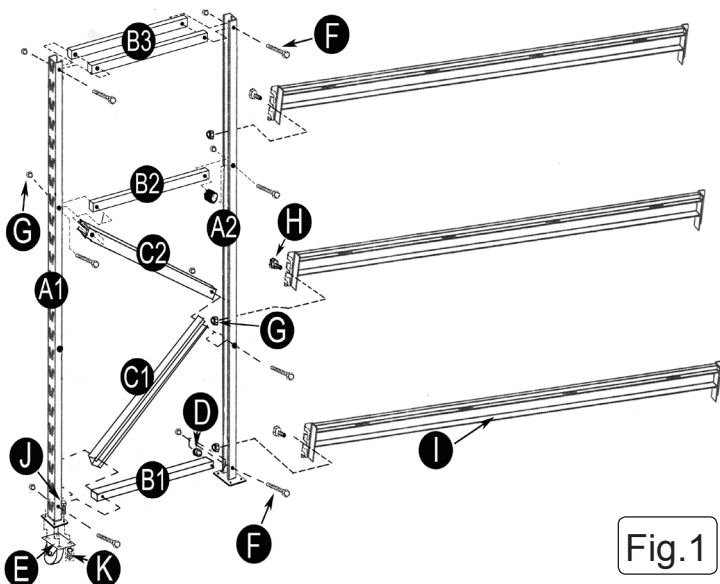

Fig.1
Carefully unpack the product and check the contents (fig.1) against the list below. Should any items be missing or damaged, immediately contact your Sealey dealer.
4.2 Assembling the end frames. Refer to Fig.1.